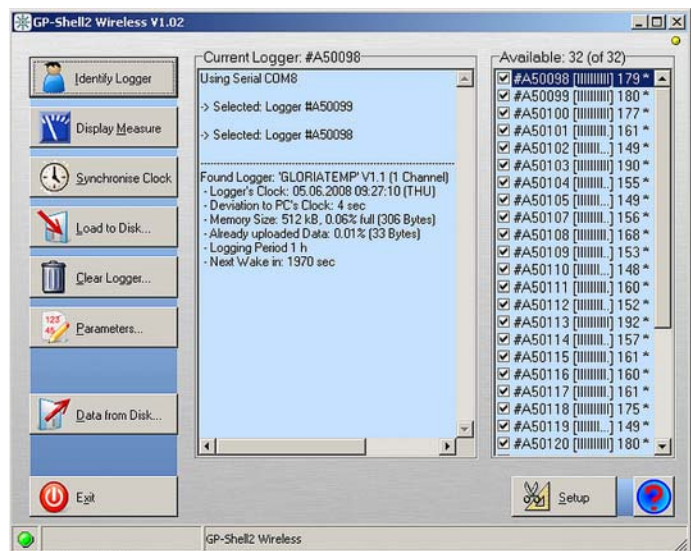

Fig. 2
Loggers will show up in the righthand window of the display (Fig. 2). Check the checkbox to the left of the logger serial. You are asked for the access code. Enter the relevant code for this serial number. All loggers within this group are accessible now. You have to do this only once for the current installation of the software on the respective PC.
6) Select a logger and click the button “Identify Logger”. Probably you get a warning message (in case the deviation of the logger’s clock to your PC’s clock is more than about +/- 120 secs.; see point 7 below). Next you get a status report in the main window, starting with “Found Logger:...” (Fig.2).
As to the producers indication the loggers should send out of 10cm depth (and were tested for 30cm soil depth) without problems. If you can, you may take your notebook to the summit and test the loggers radio connections after they were buried, however. See the first chapters of this document and the *08-4_GPShell_Helpfile.pdf*: just start the software and look if the loggers appear in the window. A field intensity of around 120 (this is indicated in the right window, right of the loggers serial number; Fig. 2) should be sufficient to communicate with the logger. You may try out "Identify Logger" and "Display Measure", this does not disturb the loggers functioning.